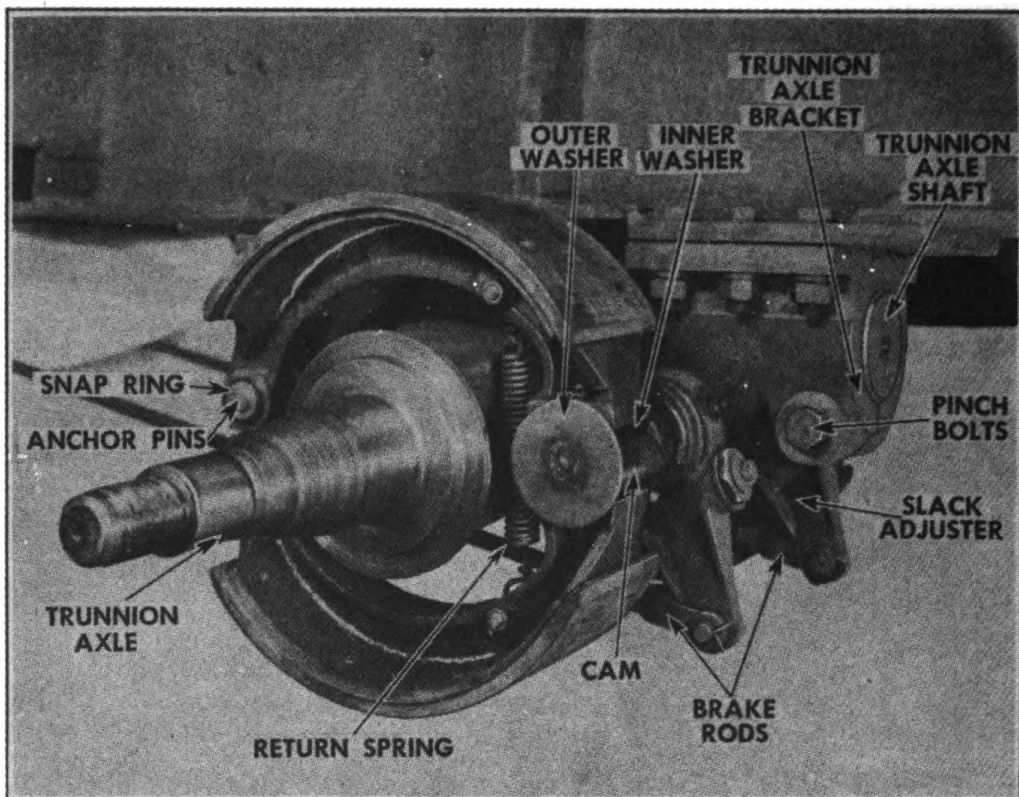
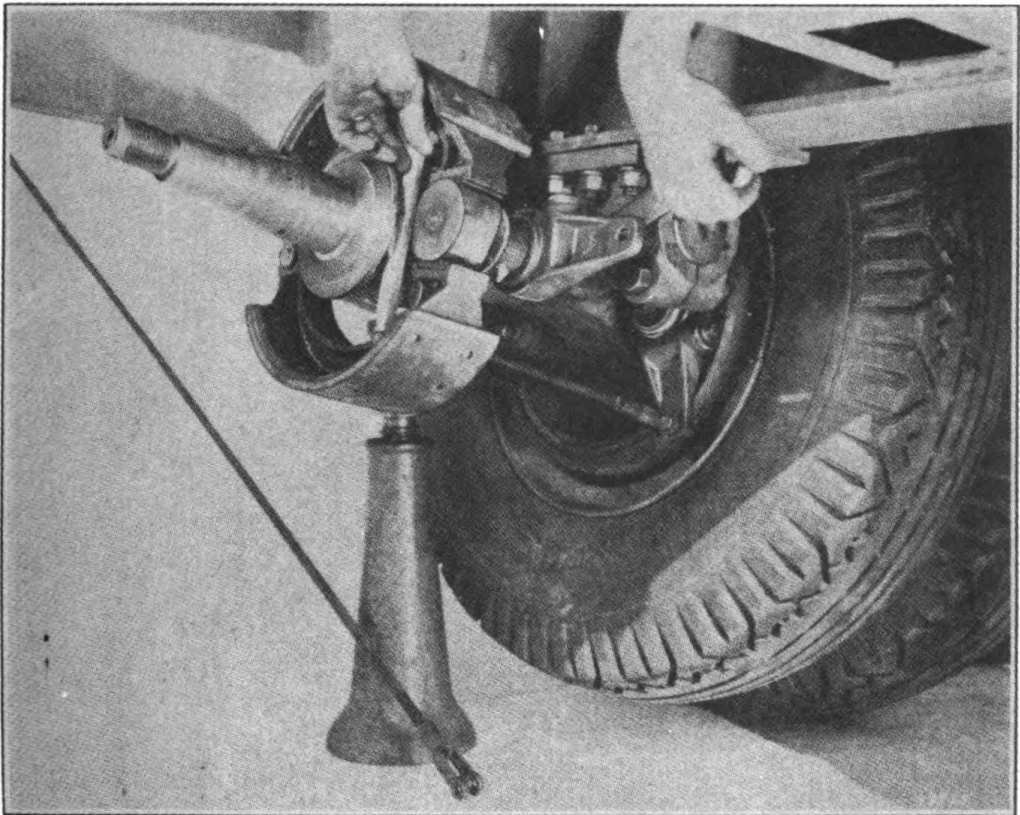

FIGURE 11. REAR UNDERCONSTRUCTION
FIGURE 17. REMOVING CAM—REAR—STEP 1
(1) Disconnect the two brake rods at the slack adjuster (Fig. 11).
(2) Raise the cam end of the top shoe and rest it on outer cam washer. (Fig. 11.)
(3) Tap the anchor pin end of shoe off anchor pin.
(4) Now pull the lower shoe off anchor pin.
(5) Remove the two bolts holding return spring to brake shoes.
7. **CAMS, REAR.**—*a. Removal.* (Figs. 17 and 18.)—(1) Remove the brake rod from slack adjuster.
- (3) Place an $8\frac{1}{2}$ " piece of wood between the two spring return bolts. Now lower cam. (Fig. 17.)
- (4) Remove the nut holding slack adjuster to cam shaft.
- (5) Remove the lockwasher and flat washer from cam shaft.